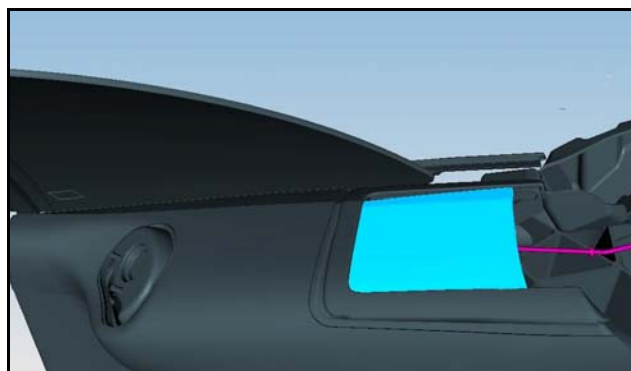

Figure 1
2. If the latch motor has failed with the roof in the open position, move the flap of the flip top and cut through the operating rod (Refer to Figure 1)